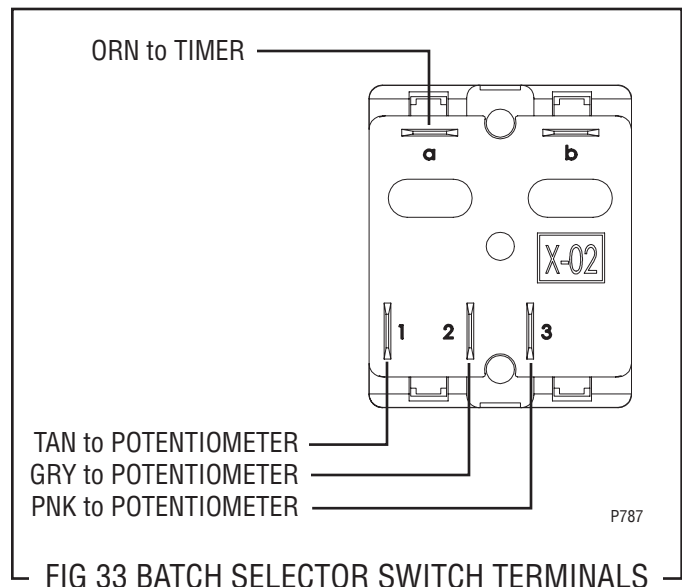

FIG 33 BATCH SELECTOR SWITCH TERMINALS
9. Refer to the Fig. 33 when reconnecting wires.
8. Refer to Fig 33 when reconnecting wires.